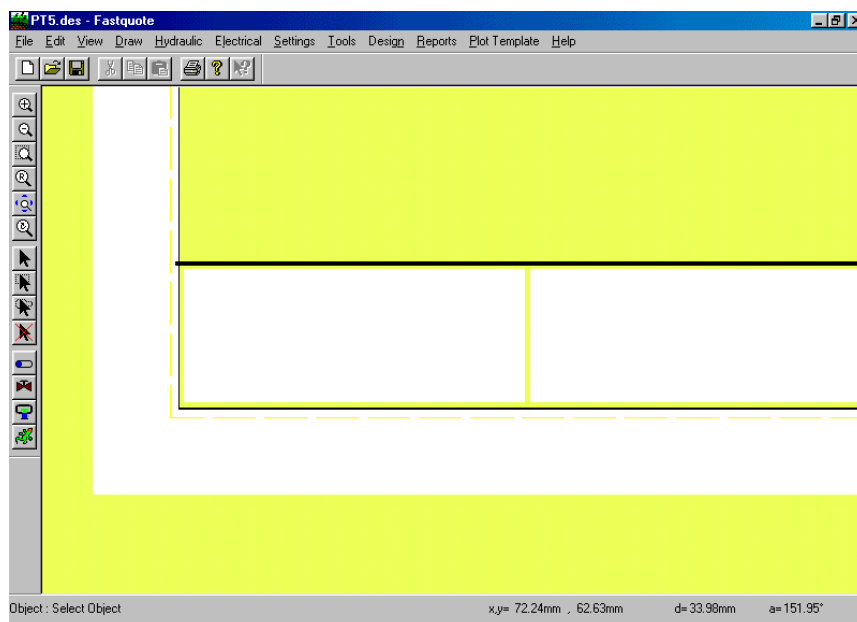

Figure PT 5
7. Select *Tools|Select Object*. Place the cursor just at the top of the left rectangle and click on the edge. Only the rectangle outline should be highlighted. Click the Delete key to delete the rectangle outline. Repeat for the right rectangle. See Figure PT 5.